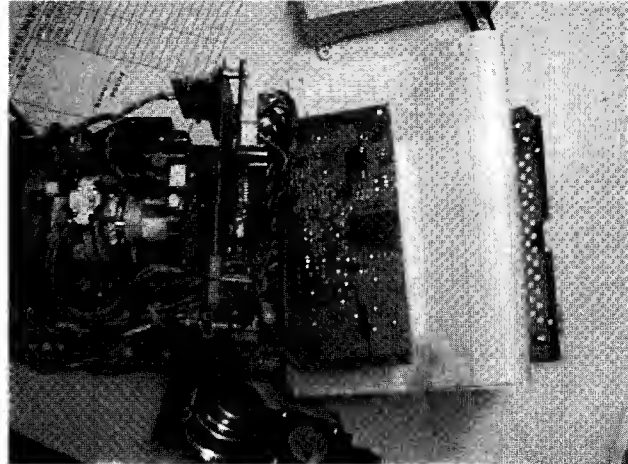

Fig.12
4. Inspect as indicated in Fig. 12.